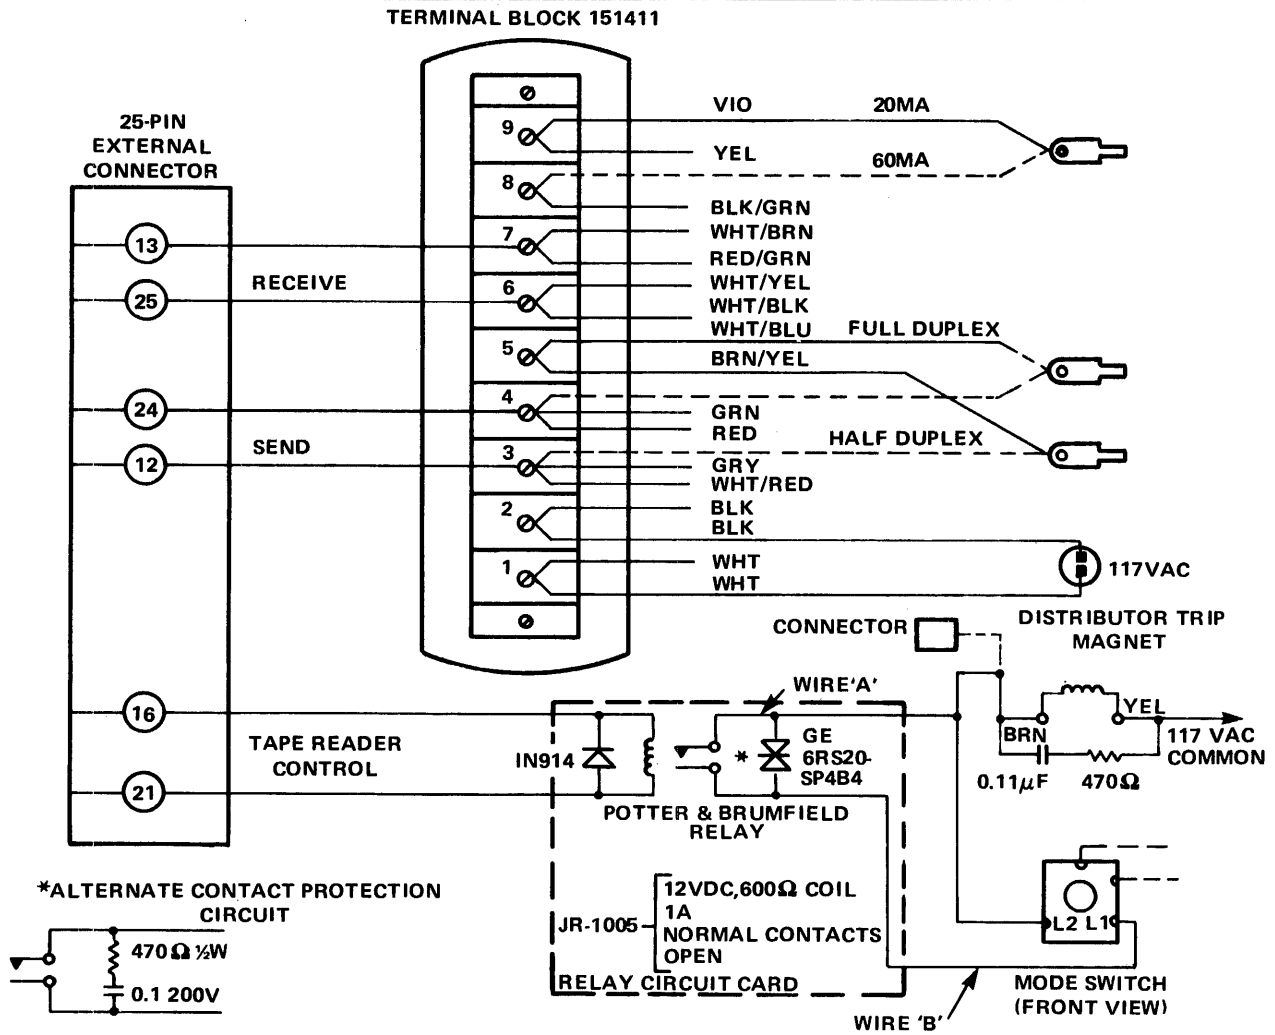
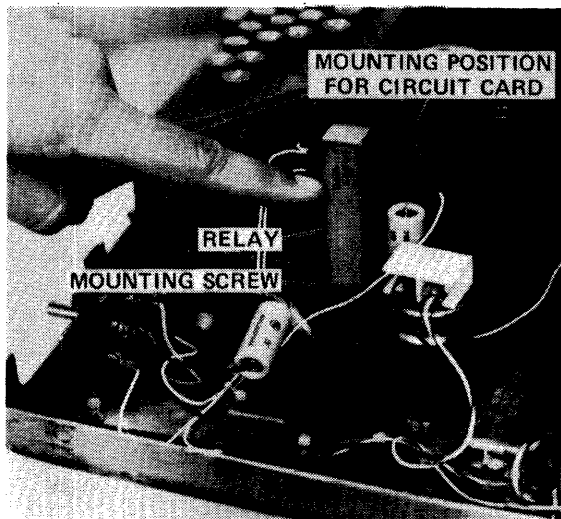
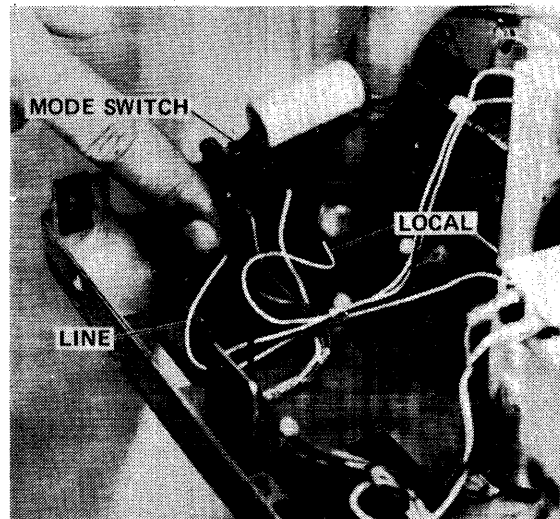

Figure C-4. Teletypewriter Modifications
Figure C-5. Relay Circuit
Figure C-6. Mode Switch
A circuit diagram of the relay circuit card is included in figure C-4; this diagram also includes the part numbers of the relay, diode, and thyrector. (Note that a 470-ohm resistor and a 0.1 $\mu$ F capacitor may be substituted for the thyrector.) After the relay circuit card has been assembled, mount it in position as shown in figure C-5. Secure the card to the base plate using two self-tapping screws. Connect the relay circuit to the distributor trip magnet and mode switch as follows:
1. Refer to figure C-4 and connect a wire (Wire A) from relay circuit card to terminal L2 on mode switch (see figure C-6).
3. Refer to figure C-4 and connect a wire (Wire B) from relay circuit board to terminal L1 on mode switch.
Connect a two-wire receive loop, a two-wire send loop, and a two-wire tape reader control loop to the external device as shown in figure C-4. The external connector pin numbers shown in figure C-4 are for serial channel 1 on the Intellec Series II system.